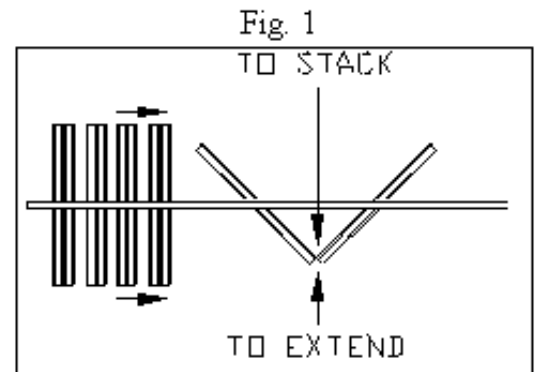

Fig. 2
3. Move each panel group down the track towards the opposite jamb or previously positioned panel group. (Fig. 2) Slow the momentum to a stop as you position the panel with the wall or previously positioned panels.
3. Disengage panels from adjoining group and move each group in the flat position down the track towards the stack area (Fig. 2).